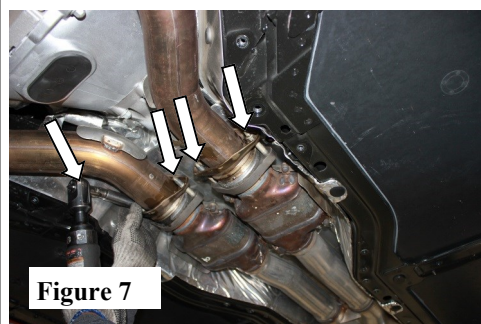

Figure 7
11. Loosen and remove flange bolts at front of mid-pipe. Keep hardware for reinstallation late. (See Fig. 7)